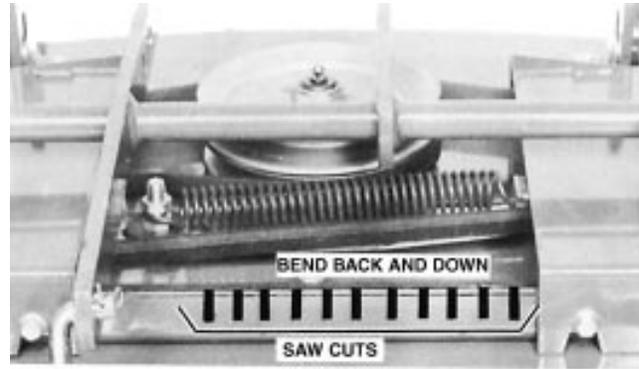

Figure 2
4. Make several saw cuts about half-way down the support plate at the rear of the mower (Fig. 2).